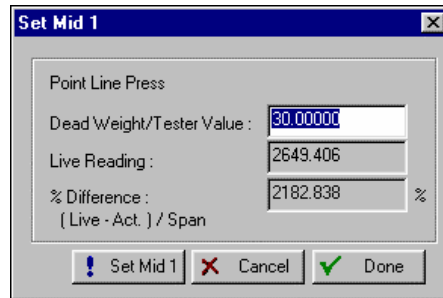

Figure 8-6. Set Midpoint 1
13. When the Live Reading is stable, click **Set Span** to calibrate the high reading. The window advances to the Set Midpoint 1 window, as in Figure 8-6.